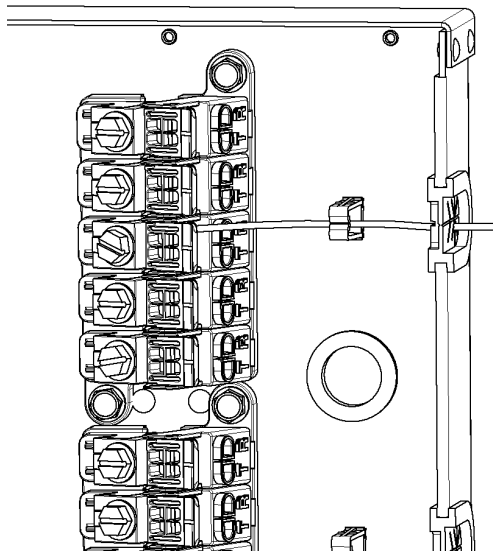

Figure 4
4. After terminating wire in the rocker, place wire through wire loop and grommet in the housing (Figure 4).